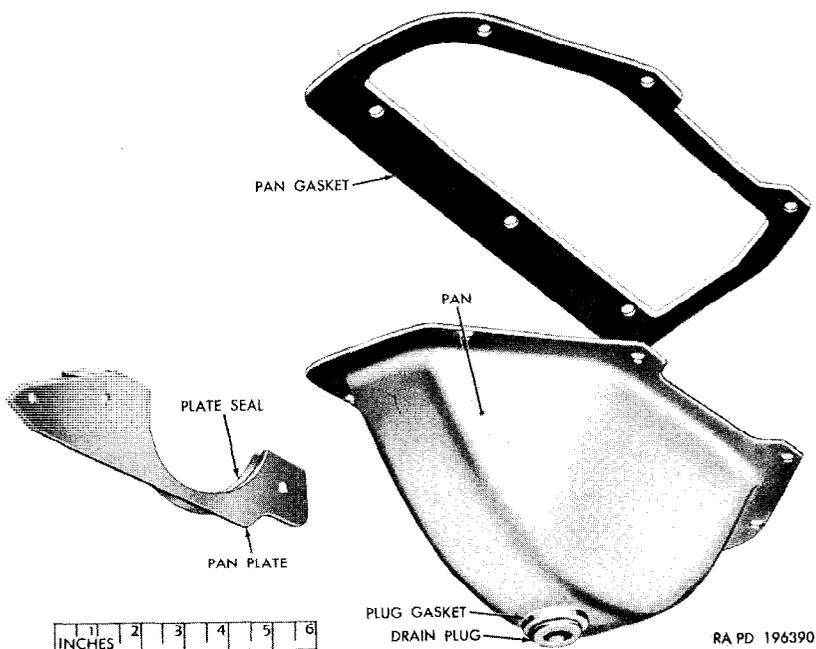

Figure 157. Clutch housing pan and pan plate (late-type).
(fig. 157)
a. General. Design changes in the clutch housing pan and pan plate provide a change in the pan drain plug and the pan plate seal (par. 6). The drain plug in the clutch pan on early vehicles is a pipe plug, while the drain plug (fig. 157) for pans on later vehicles is of a different type and is provided with a gasket. The clutch pan plate on early vehicles has two seals riveted to the plate, while the plate on later vehicles has a one-piece seal cemented to the plate. Removal and installation procedures are the same for both types of pan and plate.
- (1) Remove the four bolts and lockwashers that secure the pan plate to the front side of the clutch housing and remove the plate with seal.